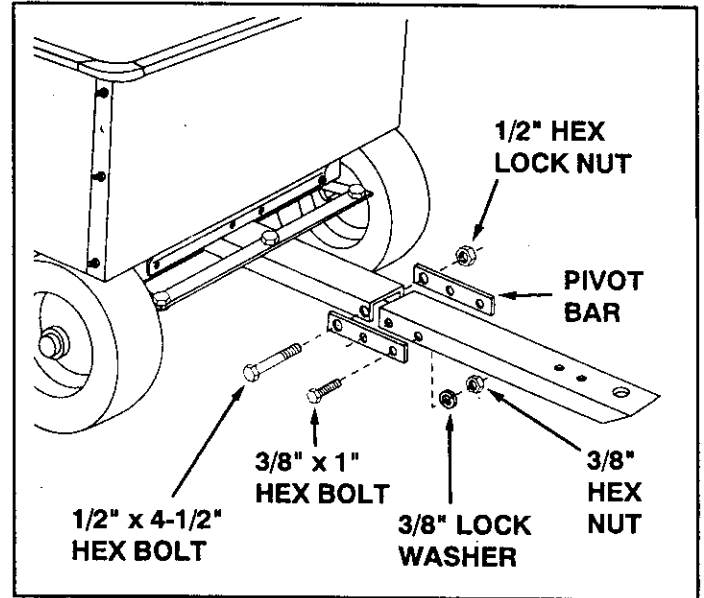

FIGURE 15
- Assemble the two pivot bars to the front tongue section using four 3/8" x 1" hex bolts, 3/8" lock washers and 3/8" hex nuts. **Tighten.** See figure 15.
- Assemble the pivot bars to the rear tongue section using one 1/2" x 4-1/2" hex bolt and one 1/2" hex lock nut. **Tighten,** leaving the nut just loose enough to allow the tongue to pivot. See figure 15.